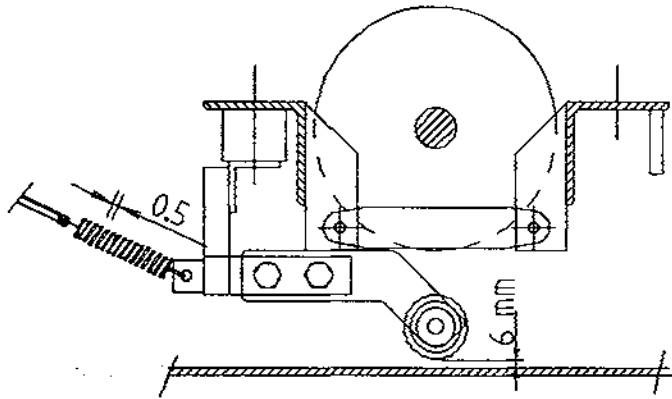

FIG 2
See Fig 2.
2. The brake spring is extended so that there is a 0.50mm gap between its coils (Fig 2.).